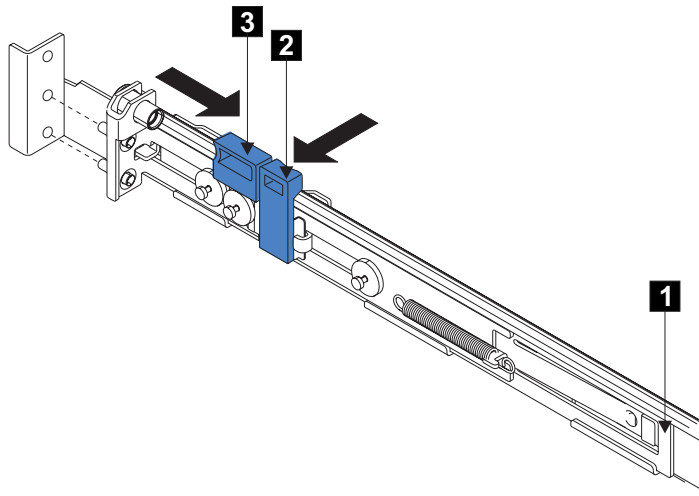

Figure 35. Opening the back latch-lock carrier assembly
5. Push the back rail bracket **1** (Figure 35) toward the front of the rail until it stops. The rail is now at its shortest adjustment.